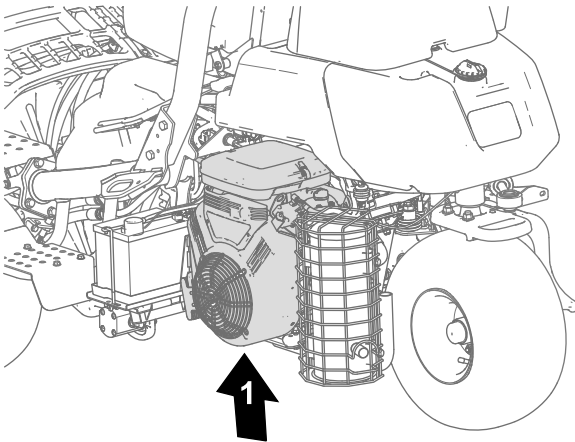

Figure 1
1. Place a jack under the engine (Figure 1).